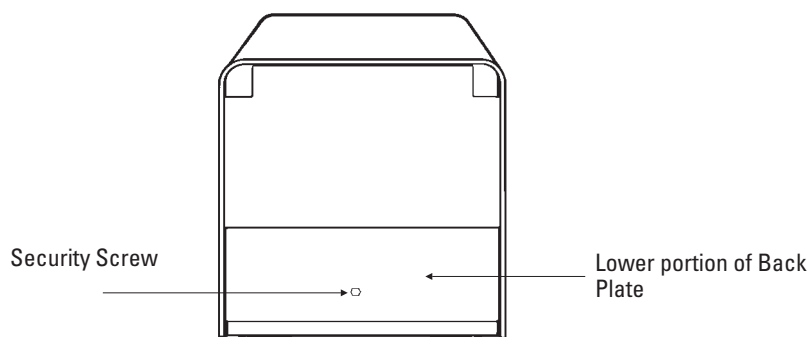

Figure 3-5:
- 1 Unscrew the Security Screw and remove the lower portion of the Auxiliary Card Reader's Back Plate by pulling it out and then down (Figure 3-5).